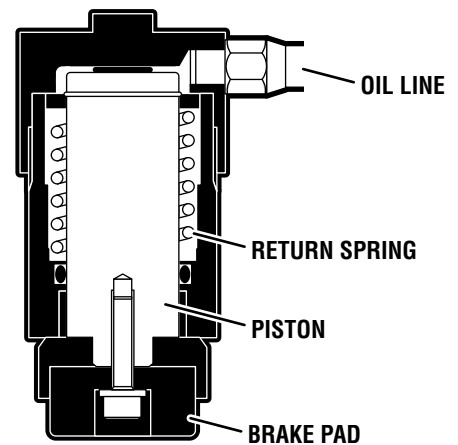

Figure 1-13. Single Action Brake Cylinder
6. Brake Cylinders - The brake cylinders are single action type similar to the elevation cylinder. The movable piston's ram is connected to a brake pad. See figure 1-13. Oil pumped into the top of the cylinder pushes the piston down raising the table base off its casters. An internal return spring pushes the piston up to return the oil through the mini-valve to the reservoir.